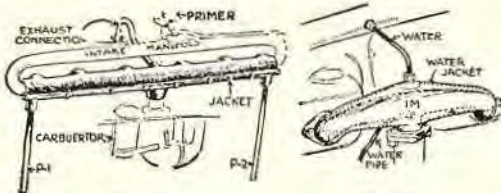

Fig. 12
2. Passing hot exhaust gases through a jacket surrounding the inlet manifold (Fig. 12).
Fig. 12. Franklin exhaust method of heating the mixture. Note the jacket which encloses the intake manifold through which exhaust gas passes. A cut-off is provided when the engine becomes very warm. P1 and P2 pipes are left open. See also page 142.